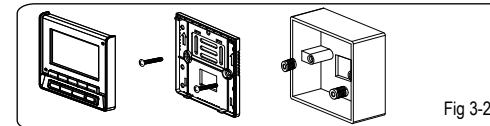

Fig 3-2
3. Fix the bottom cover to the electric cabinet by the accessory slotted head screws. Confirm the bottom cover is parallel to wall surface. And then reinstall the bottom cover to centralized controller. (See fig 3-2)